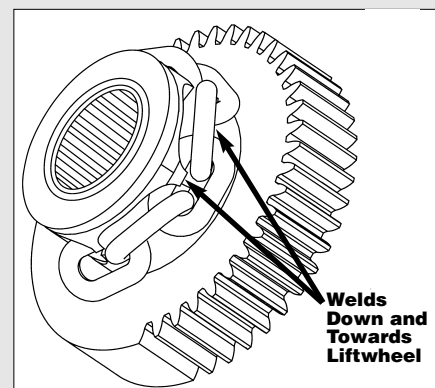

Figure 12C
3. Feed a short length of soft wire through the opening between the chain guide (620-141), and stripper (620-143) until it comes out of the hoist. Attach "new" chain to end of the wire which is in the center of the hoist. Position the chain so that the welds will be down and towards the liftwheel as shown above in Figure 12C.